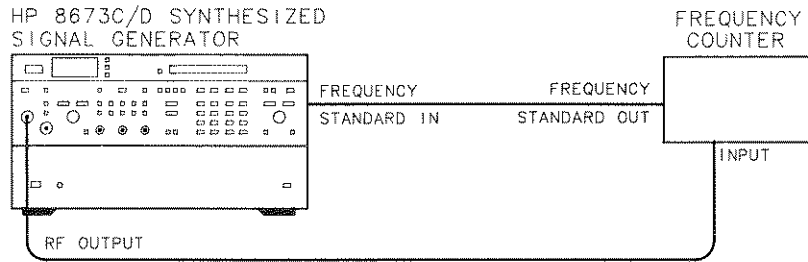

Figure 4-1. Frequency Range and Resolution Test Setup
1. Connect the equipment as shown in Figure 4-1. Set the Signal Generator rear panel FREQ STANDARD INT/EXT switch to EXT. Remove the FREQ STANDARD jumper and connect A3J10 to the 10 MHz frequency standard output of the frequency counter. With the Signal Generator and the frequency counter sharing a common timebase, the frequency counter should agree with the Signal Generator FREQUENCY MHz display ± 1 count with any selected frequency counter resolution.